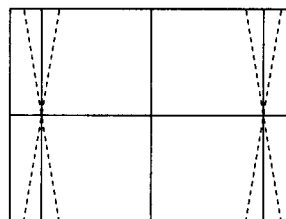

Fig. E8
- Use the arrow keys “◀” and “▶” to adjust the left and right hand vertical lines parallel to the screen edge (see Fig. E8)